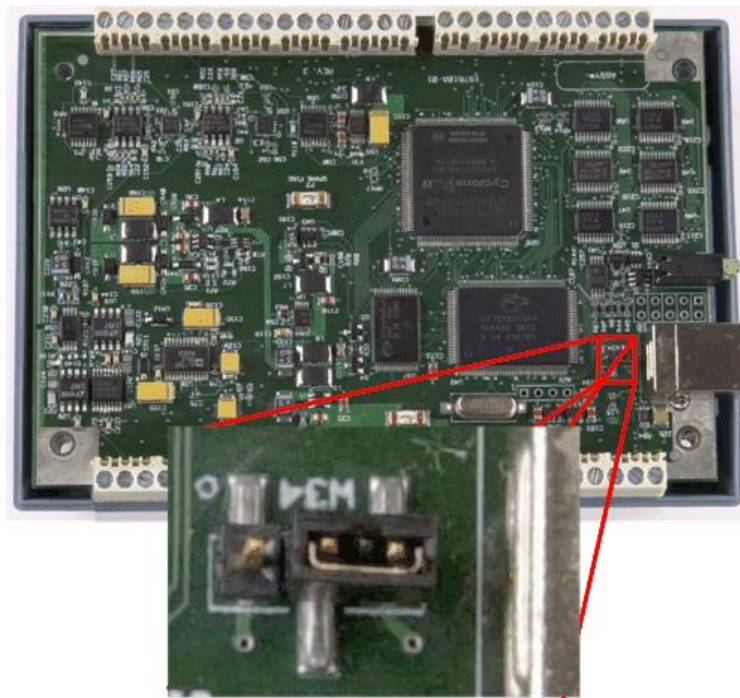
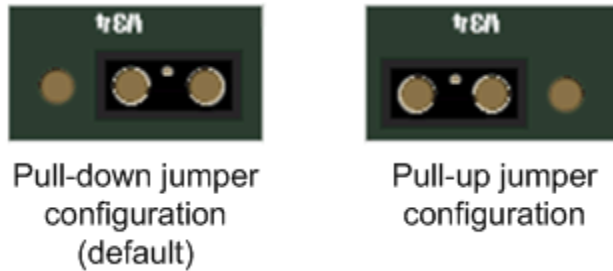

Figure 8. Location of W34 jumper (default pull-down setting shown)
Figure 9. Pull-down and pull-up configurations
5. Set the jumper to either pull-up or pull-down (see Figure 8 and Figure 9).